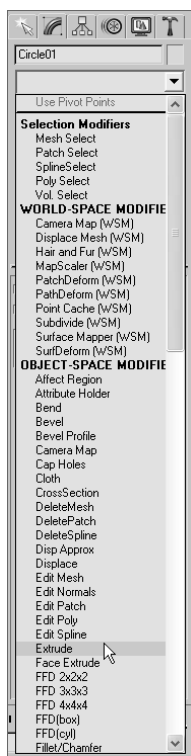

Figure 2.15
- Select the Circle01 object (the circle) and click the Modify tab () in the Command panel. Under the Circle01 name text box, click on the Modifier List pull-down menu to access the tons of *modifiers* you can add to the circle (Figure 2.15). Under the Object-Space Modifiers heading, select Extrude.